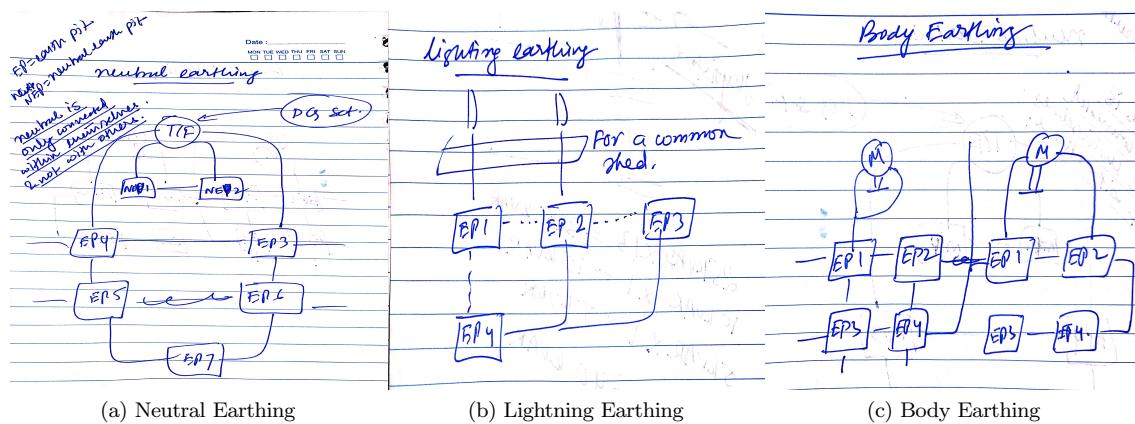

Figure 1.8: Different types of earthing schemes
- There are 3 types of earthing present in a bottling plant (or any industrial facility for that matter) - Neutral Earthing (for DG and TF), Lightning Earthing (for Buildings and other structures), Body Earthing (for every electrical equipment in the plant and 2 point earthing if operating voltage is more than 250 Volts). The earthing schemes as per OISD regulations are roughly described in Fig 1.8